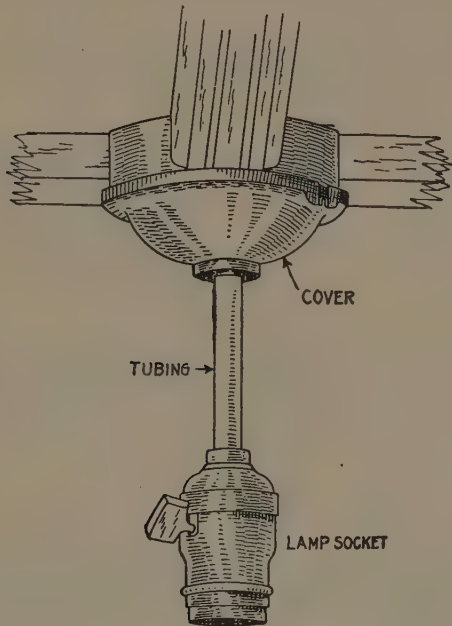

FIG. 876.—Circular fixture block for outlet from moulding work on ceiling.
7. Wherever fixture outlets are installed, a circular fixture block as shown in fig. 876 should be used, to give a good support for the fixture and to make a neat backing for the fixture canopy. The wires should be brought through the fixture without cutting and disfiguring the canopy.